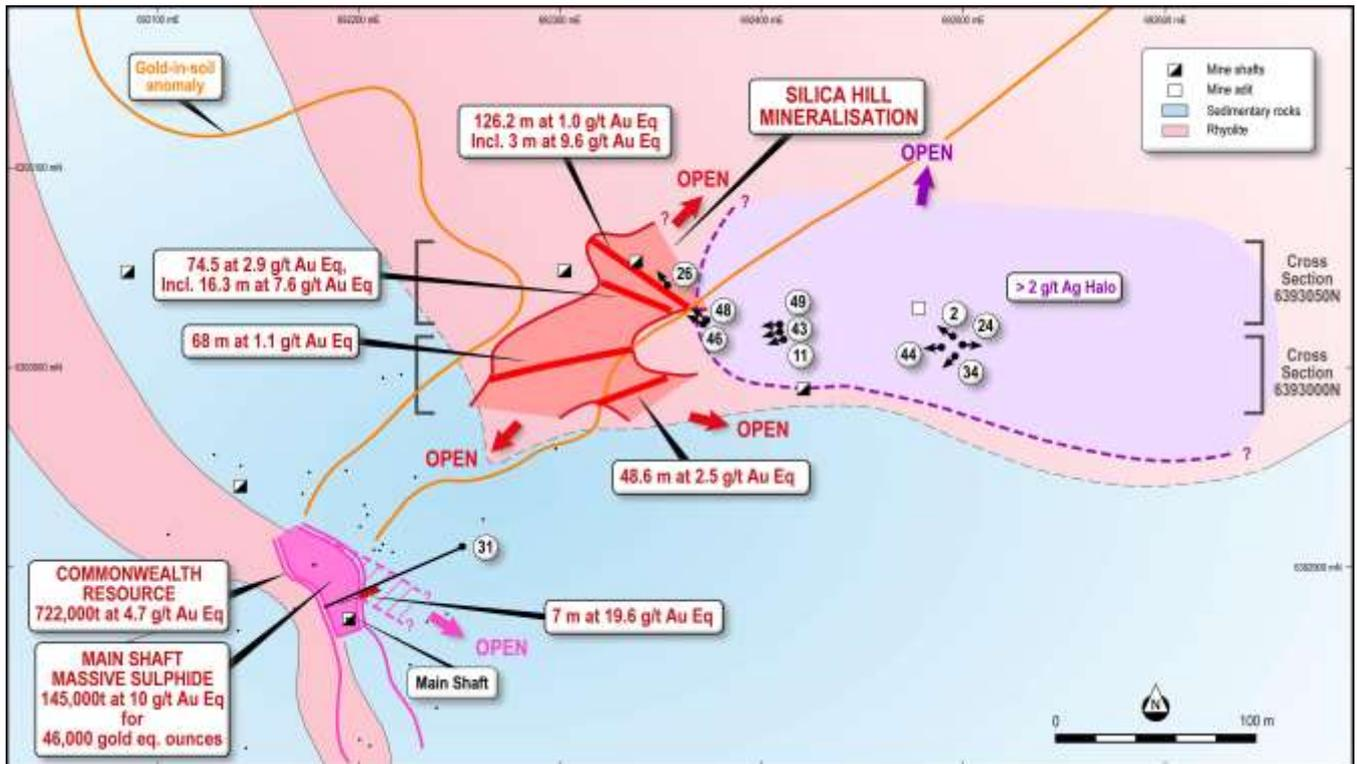

Figure 1. Significant drill intercepts and outline of mineralisation at Silica Hill and the northern end of the Commonwealth resource.
1. the down dip and along trend extensions to the **Silica Hill Prospect** where Impact has discovered robust widths and grades of gold and silver over an area of 200 metres by 100 metres down to a depth of 120 metres below surface and with an **average** true thickness of at least between 50 metres and 70 metres (Figure 1). Drill intercepts include 74.5 metres at 2.9 g/t gold equivalent including 16 metres at 7 g/t gold equivalent as well as narrower zones of high grade gold and very high grades of silver including 0.9 metres at 3,150 g/t silver and 2 g/t gold (Figure 1 and see announcements dated 5th December 2016 and 22nd February 2017).
2. Targets at depth and along trend from the **Commonwealth resource (Main Shaft and Commonwealth South)** about 100 metres south east of Silica Hill. A conductor that may represent massive sulphides has been identified at depth below the Commonwealth resource at Main Shaft (Figure 1 and see announcement 22nd February 2017).